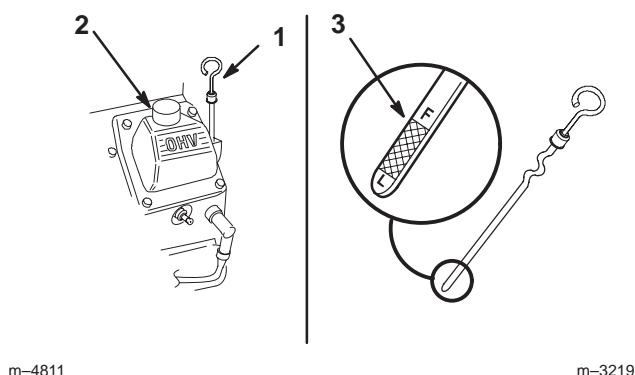

Figure 33
2. Clean around the oil dipstick (Fig. 33) so dirt cannot fall into the filler hole and damage the engine.
3. Pull the oil dipstick and wipe the metal end clean (Fig. 33).
4. Slide the oil dipstick fully into the filler tube. Pull the dipstick out and look at the metal end (Fig. 33). If oil level is low, slowly pour only enough oil into the filler tube to raise the level to the full mark.
5. Slowly pour approximately 80% of the specified oil into the filler cap (Fig. 33). Refer to Servicing the Engine Oil, page 30.